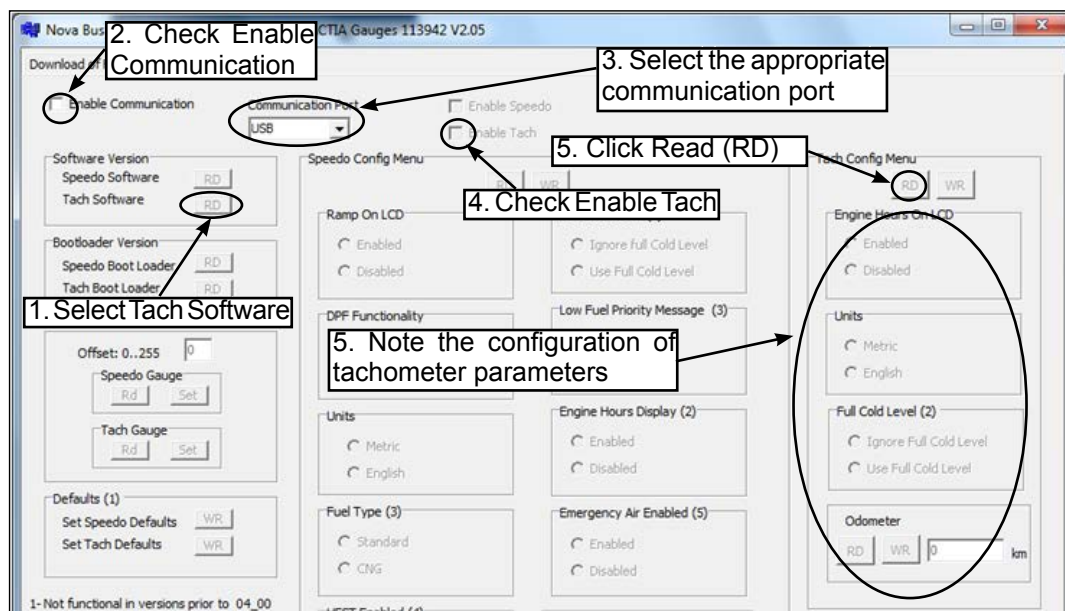

Figure 22 - Tachometer Menu Screen
4.1.1 Throughout the entire download procedure, the MASTER CONTROL SWITCH must be in the OFF position and the engine start switch, set the engine compartment switch to rear mode. Follow the steps in Figure 22. Note the configuration of tachometer parameters. This configuration will be required in step 4.1.5 (see Figure 22).